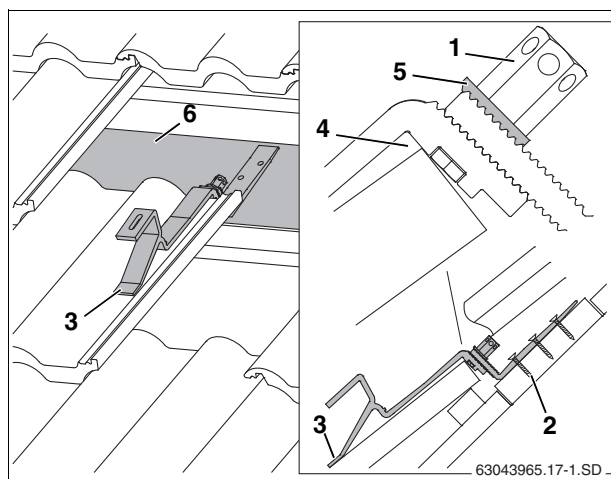

Fig. 13 Roof hook installed (some tiles have been removed for a better view)
With some roof coverings it may be necessary to suspend the roof hook using a board or shims (Fig. 13, [6]) to get the upper part of the roof hook to rest on top of the tile.
- The roof hooks must be positioned in tile valleys and directly bolted to the building substructure with sufficient capacity to carry the load of the solar system including required snow and wind loads (Fig. 13, [3]).
Allow for expansion and contraction by keeping some clearance along the upper edge of the tile (Fig. 13, [4]).
- Push the L-shaped part of the roof hook down until it lies flat on the sheathing or on the board/shim if needed (Fig. 13, [6]).
The toothed washer (Fig. 13, [5]) must grip the teeth on the lower part of the roof hook.
- Tighten the long hex-nut (Fig. 13, [1]). To do this, insert the size 5 Allen wrench into the hole in the hex-nut and turn.
- Using suitable screws (Fig. 13, [2]), secure the L-shaped part of the roof hook to the building substructure. The sheathing alone will not offer sufficient support.